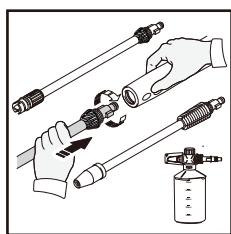

Fig. 6
- While the spray gun is in the locked position, insert the turbo lance, the adjustable spray lance, or the detergent bottle directly into the end of the spray gun by inserting and pushing together and turning clockwise simultaneously. To remove push together and turn counter clockwise (Fig. 6). Push the safety lock button to lock the trigger when changing lances or detergent tank, to ensure that they do not accidentally eject with force during removal.